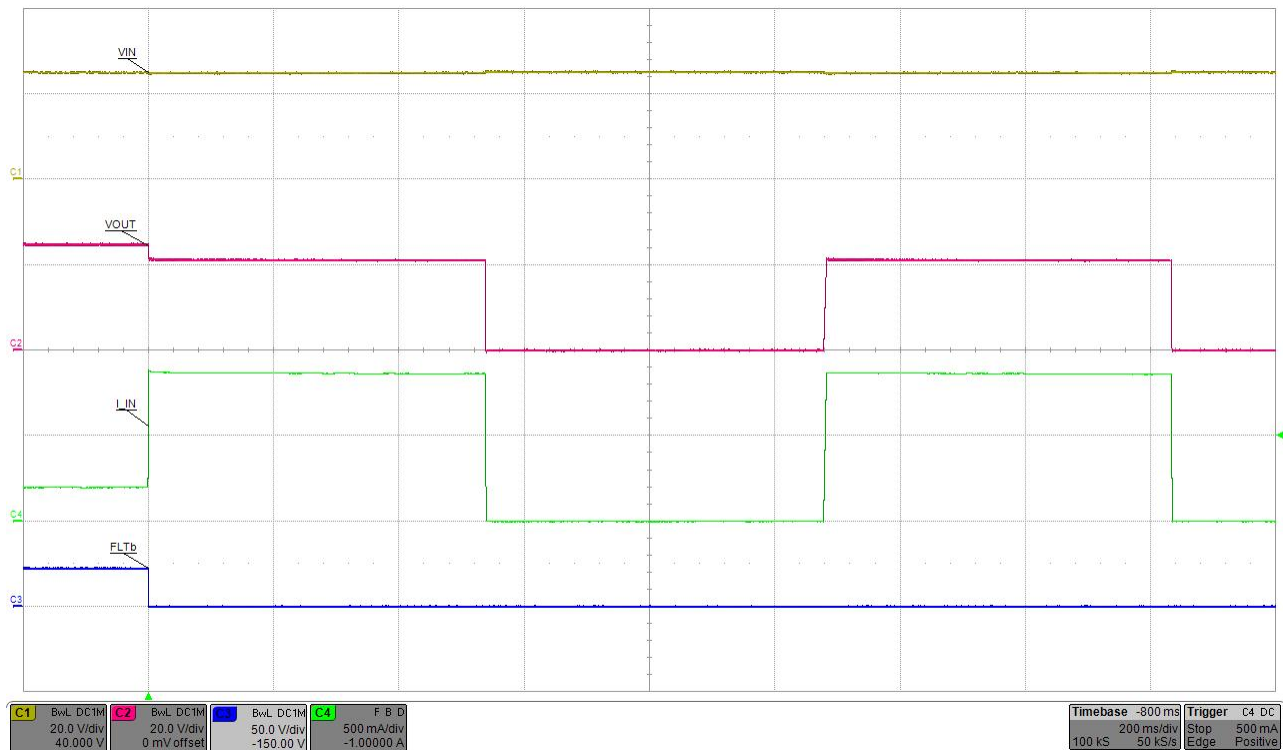

Figure 3. J4 = 1-2 Position, Current Limit (800 mA) and Auto-Retry
6. Verify that input current is limited as per the setting in Table 6 and the device is in latched mode as shown in Figure 3.